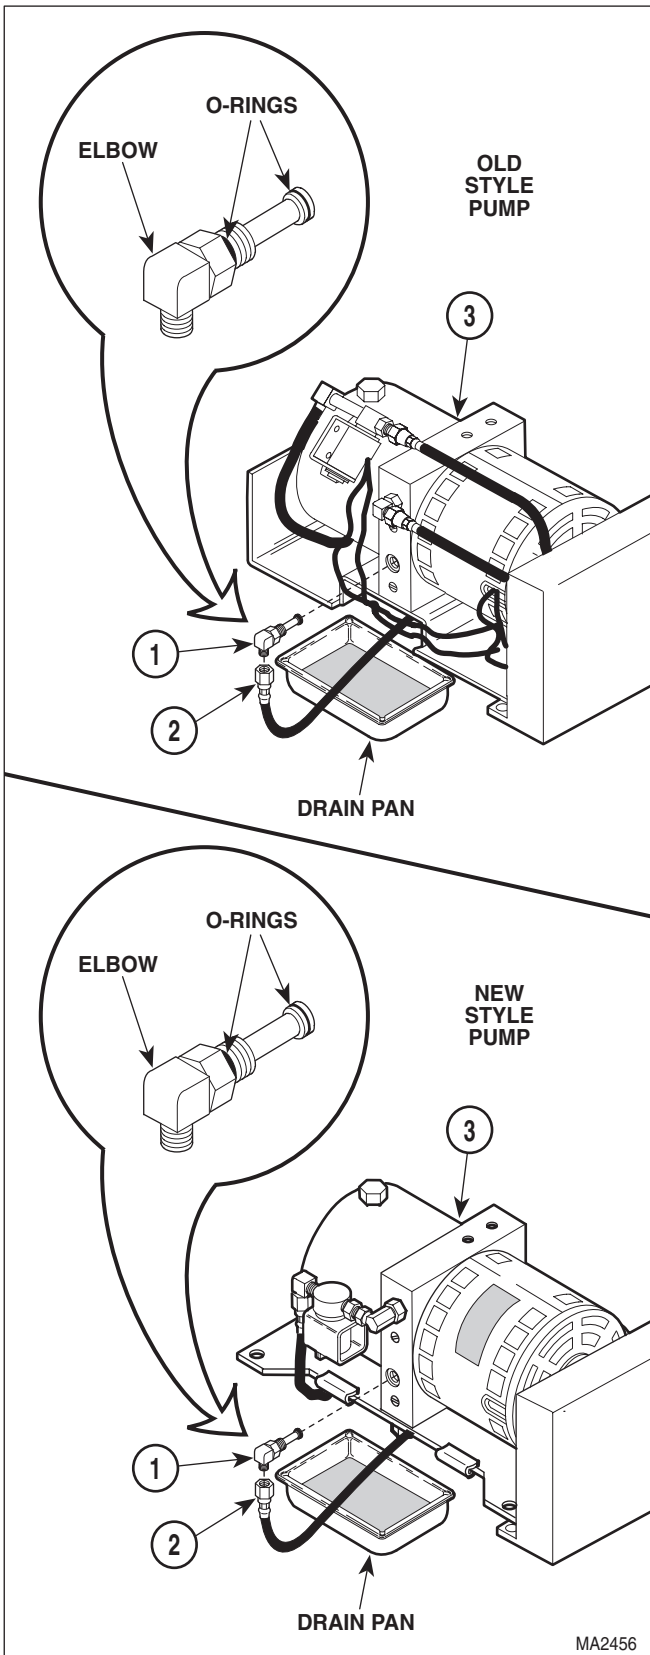

Figure 4-3. Up Functions Shuttle Valve Removal / Installation
- (3) Place drain pan under up functions shuttle valve (1, Figure 4-3).
- (4) Disconnect hose assembly (2) from elbow of up functions shuttle valve (1).
- (5) Remove up functions shuttle valve (1) from motor pump (3).